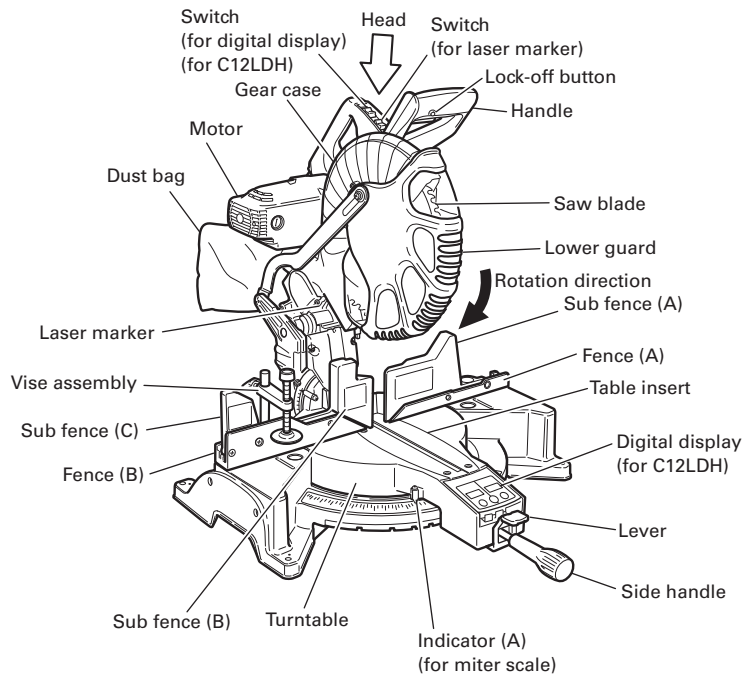

Fig. 1
Attach the dust bag and vise assembly as indicated in Fig. 1 and Fig. 2.
**⚠ WARNING: Please be aware of the reaction of the Motor Head (Fig.1) when the brake is activated. Braking causes the Motor Head to jerk downward and the user should be prepared for this reaction, especially when the trigger switch is released before the blade is completely down. Failure to be familiar with, and prepared for, the operational characteristics of the tool may cause serious injury.**